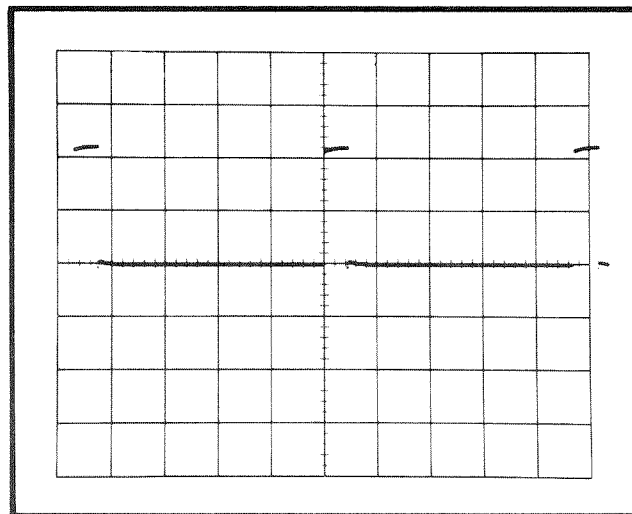

Fig. 5-10. CRT display when checking sweep holdoff time.
c. CHECK—The holdoff time (see Fig. 5-10) corresponds to the values given in Table 5-9.